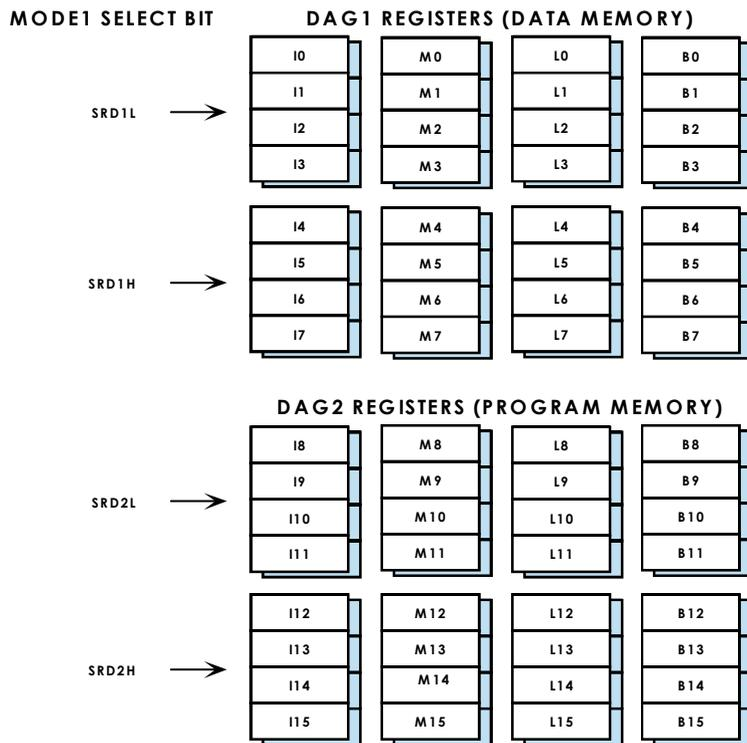

Figure 4-2. Data Address Generator Primary & Alternate Registers
Bits in the MODE1 register can activate alternate register sets within the DAGs: the lower half of DAG1 (I, M, L, B0-3), the upper half of DAG1 (I, M, L, B4-7), the lower half of DAG2 (I, M, L, B8-11), and the upper half of DAG2 (I, M, L, B12-15). Figure 4-2 shows the DAG’s primary and alternate register sets.
Modify (M) registers can work with any index (I) register in the same DAG (DAG1 or DAG2). For a list of I and M registers and their DAGs, see Figure 4-2 on page 4-7.